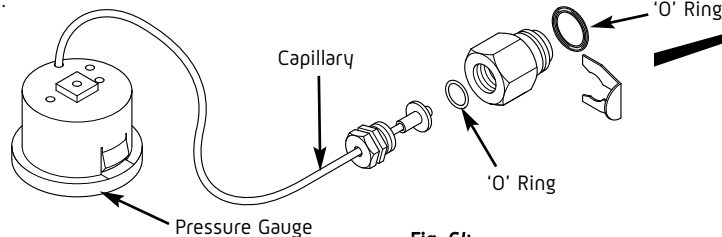

Fig. 64
4. Lever the barbs securing the gauge to remove the gauge from the control box (Fig. 64).